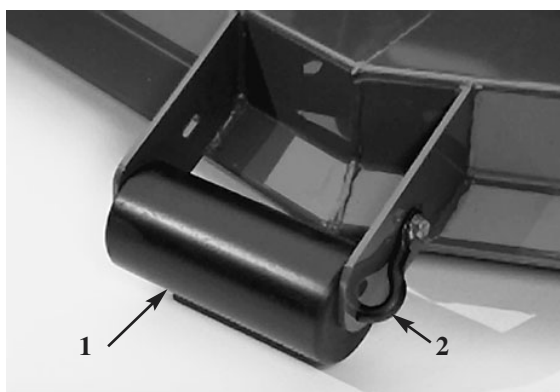

Figure 3
To adjust front roller (Fig. 3):
1. Remove the capscrew and nut securing the roller shaft to the cutting unit bracket (Fig. 3).